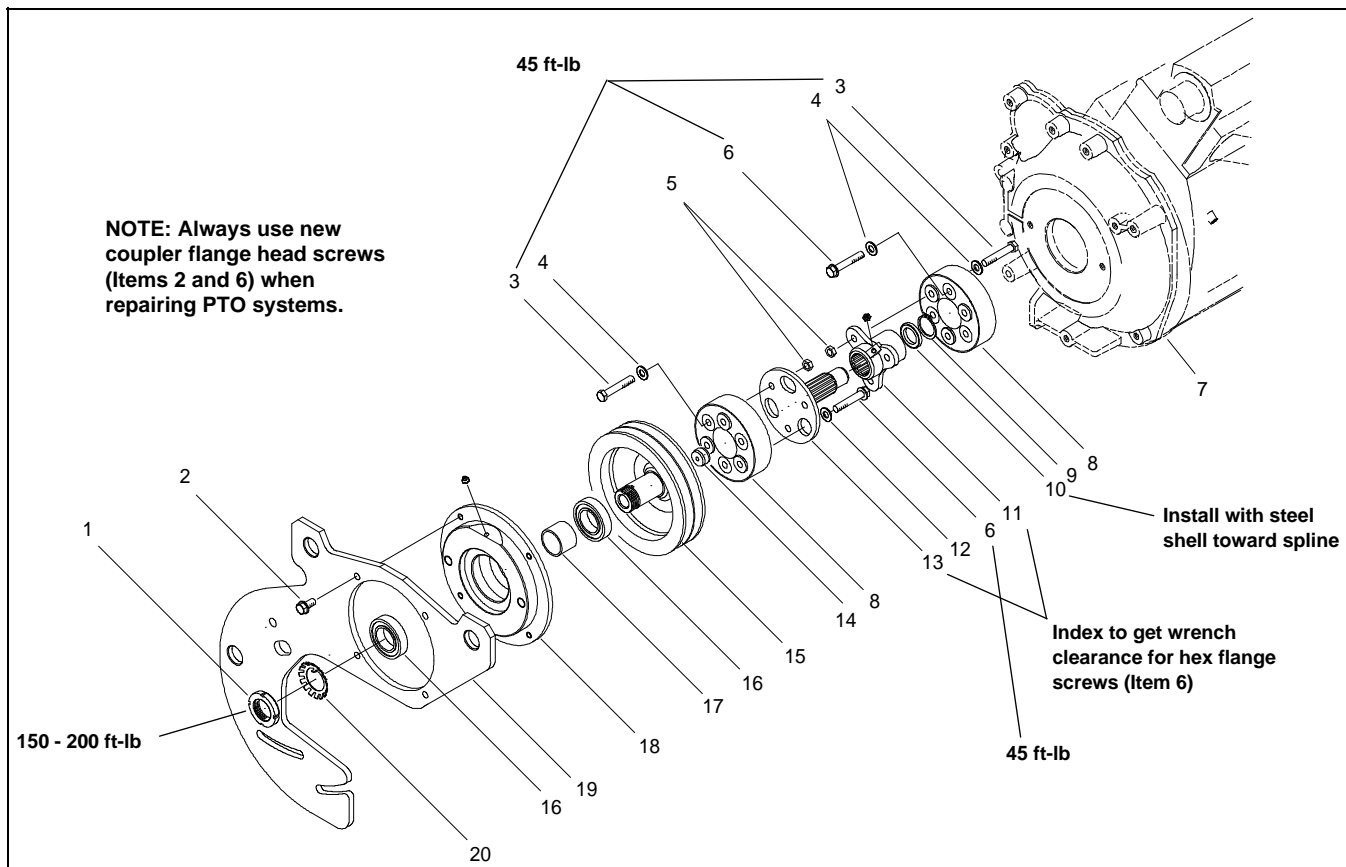

Figure 6
Use this tool (TOR4050) to remove and install the PTO drive pulley bearing locknut (Fig. 6, Item 1).
3. Remove three (3) flange head screws (Fig. 6, Item 6) and spacers (Item 12) securing rubber coupling (Item 8) to PTO pulley (Item 15).
1. Remove three (3) flange head screws (Fig. 6, Item 6) securing driveshaft (Item 13) to rubber coupling (Item 8). Make sure you account for spacers (Item 12).
2. Remove three (3) flange head screws (Item 6) securing rubber coupling to engine. Be sure you account for flat washers (Item 4).
NOTE: A special tool (TOR4050) is required remove and install the bearing locknut (Fig. 6, Item 1).
14. Install bearing housing and pulley assembly to main adapter plate (Item 19) and secure with four (4) flange screws (Item 2).
18. Add No. 2 General Purpose Lithium Base Grease at grease fitting on bearing housing (Fig. 6, Item 18).